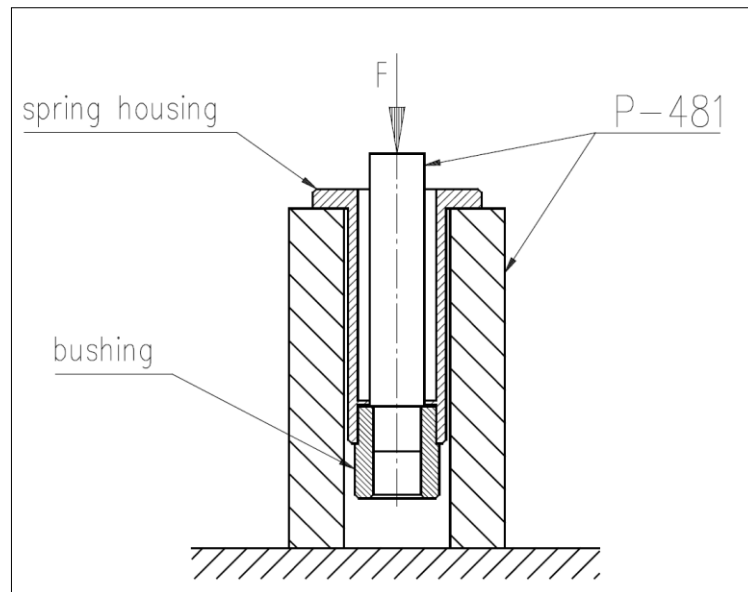

Fig. C-5 Removal of bushing from spring housing
- 1) If spring housing (5) is undamaged but bushing (2) is enlarged and exceeds allowed wear parameters replace the bushing. Insert the assembly into the P-481 jig (Fig. C-5) and put it under the bench press. Carefully press-out the bushing from the housing.